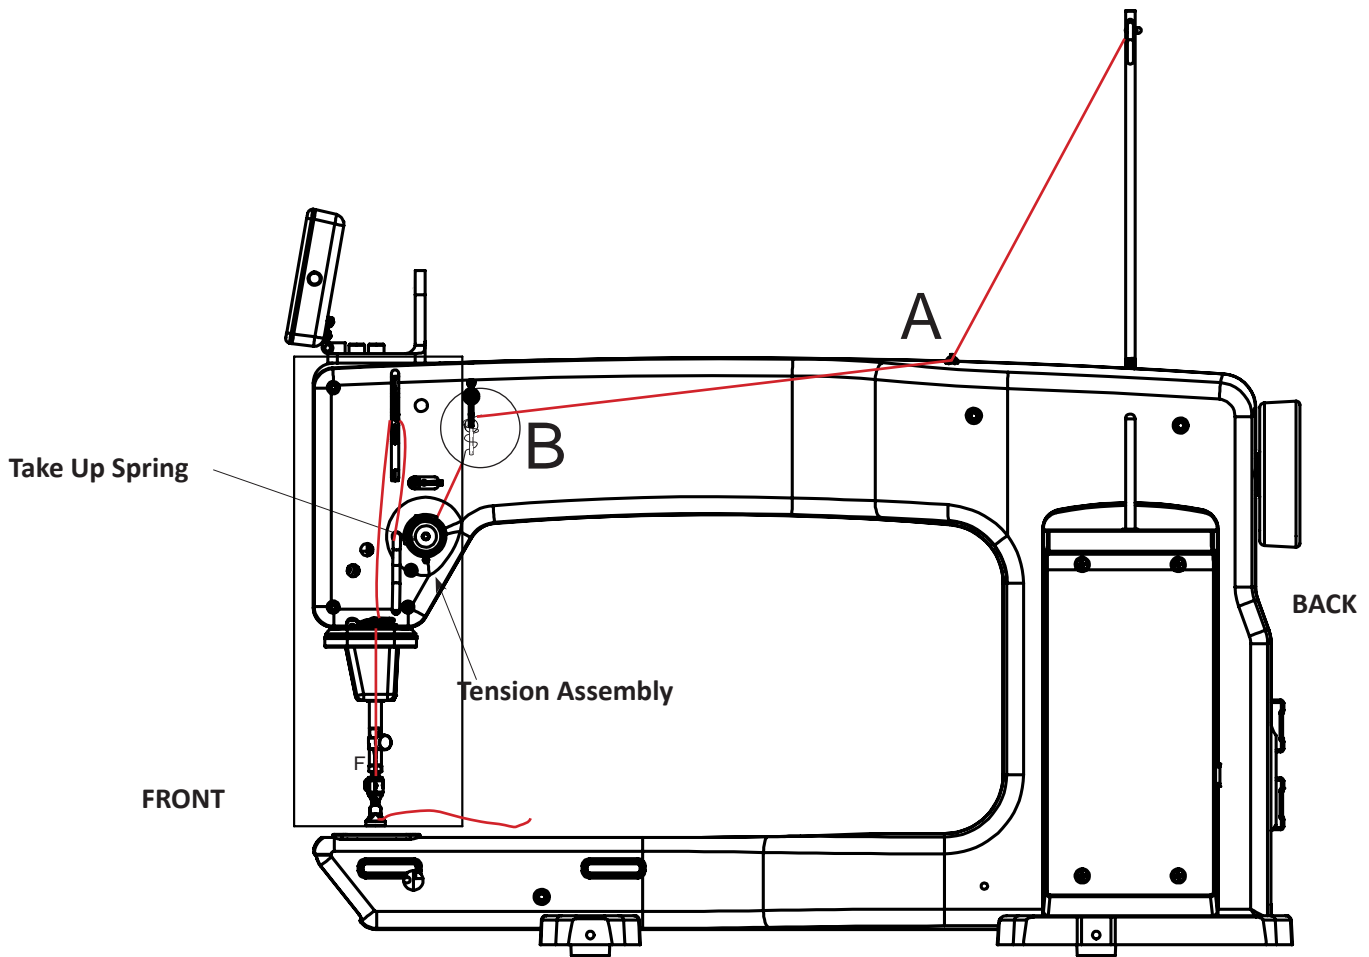

Figure 11
1. Place a cone or spool of thread on the spool pin. If using a spool, make sure that the slits on the spool are against the base of the spool pin holder. Pass the thread through the thread antennae eyelet from back to front, continuing to thread guide A (Figure 11).